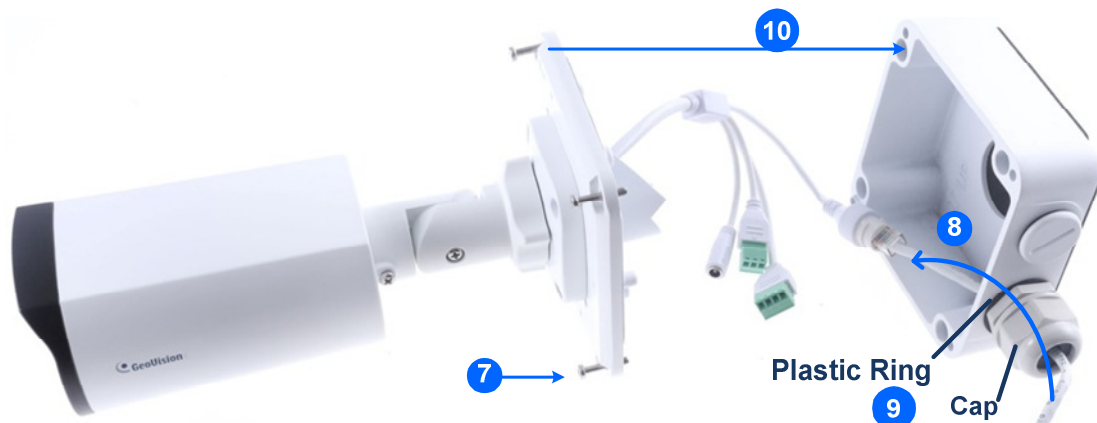

Figure 1-58
- Reattach the box cover to the power box, as shown in No. 7, *Figure 1-58*.
- Thread the Ethernet cable through the PG21 conduit connector and the power box as shown in No 8, *Figure 1-58*. Then Connect the cable to the camera. To waterproof the cable, see 1.6 *Waterproofing the Cable*.
- Rotate the plastic ring to secure the conduit connector to the power box. Secure in the cap, as shown in No 9, *Figure 1-58*
- Secure the box cover to the power box, as shown in No 10, *Figure 1-58*